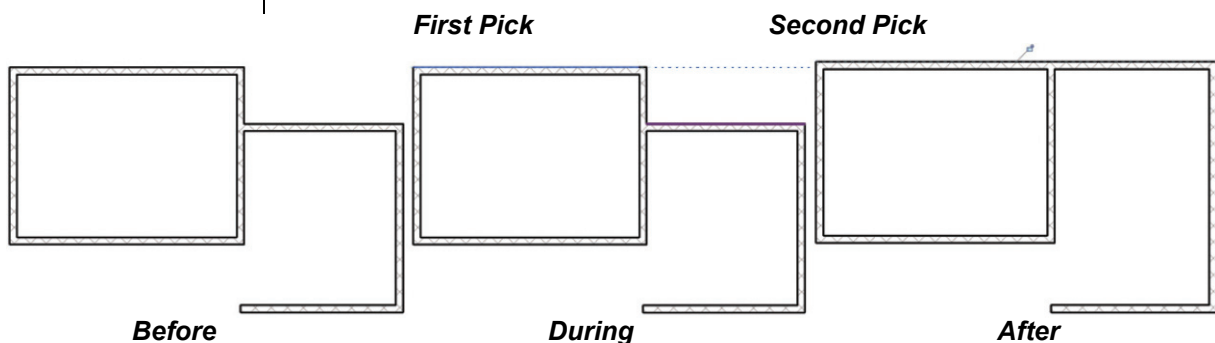

Figure 5–23
3. Select a line or point on the element to be aligned. The second element moves into alignment with the first one as shown in Figure 5–23.